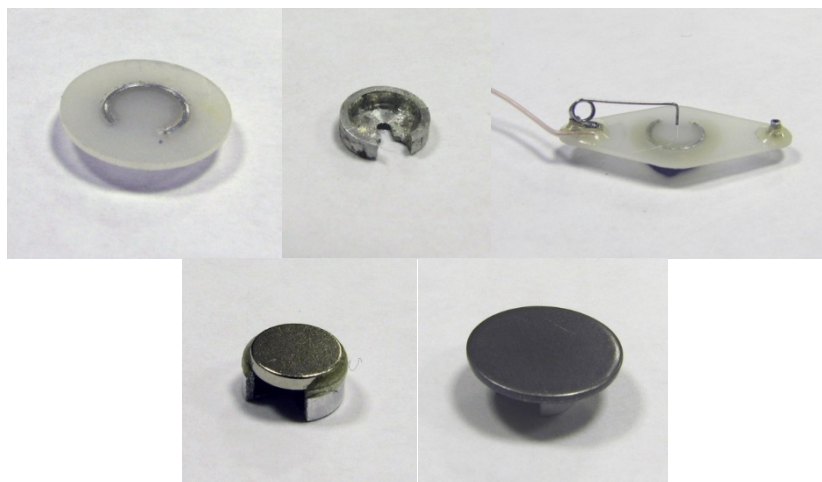

Figure 3.2.1. Sample holders: **1**—basic holder, **2**—holder for fast scanning, **3**— holder with an electrical contact, **4** and **5**— magnetic holder.
Before loading the sample into the microscope, you should fix it on the sample holder. There are a few types of sample holders provided with the microscope (fig. 3.2.1): (1) holders with polycor substrate on top, (2) round metal holders 4 mm in diameter, holder with the electrical contact (3), magnetic holder with a set of metal discs (4 and 5). A slit in the bottom part of the sample holder is used for mounting it on the scanner.